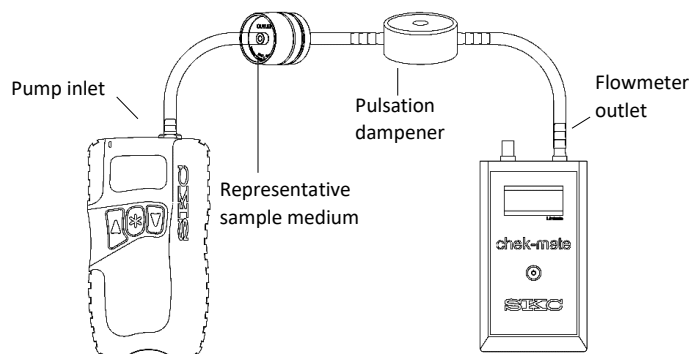

Figure 3. High Flow Rate Verification Train
- b. **For high flow model**, use flexible 3/8-inch ID tubing. Place Pulsation Dampener Cat. No. 375-150 in line between the flowmeter outlet and representative sample medium inlet; it is always required in line to achieve the highest possible accuracy when verifying flow rate of pumps with flow rate ≥ 5 L/min. If required by the sampler, use a calibration adapter. See Figure 3.